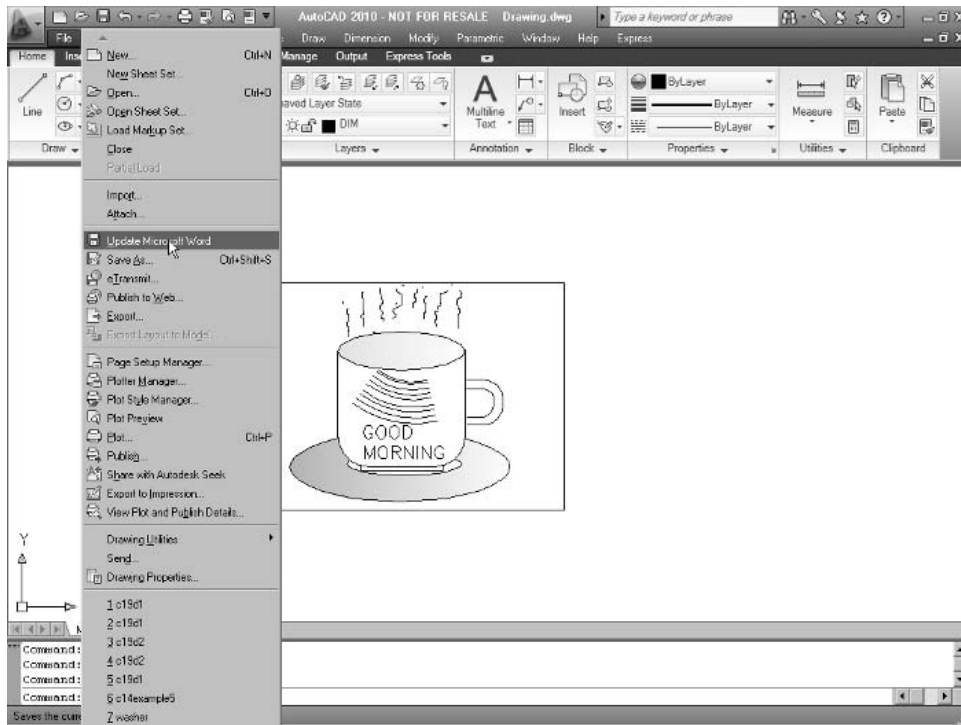

Figure 21-16 Updating the drawing in AutoCAD
9. After you have finished modifying your drawing, choose **File > Update Microsoft Word** from the menu bar in the server (AutoCAD) see Figure 21-16. To display the menu bar, click on the down arrow in the **Quick Access Toolbar** and select **Show Menu Bar**. AutoCAD automatically updates the drawing in MS Word (container application). Now, you can exit this temporary file in AutoCAD.